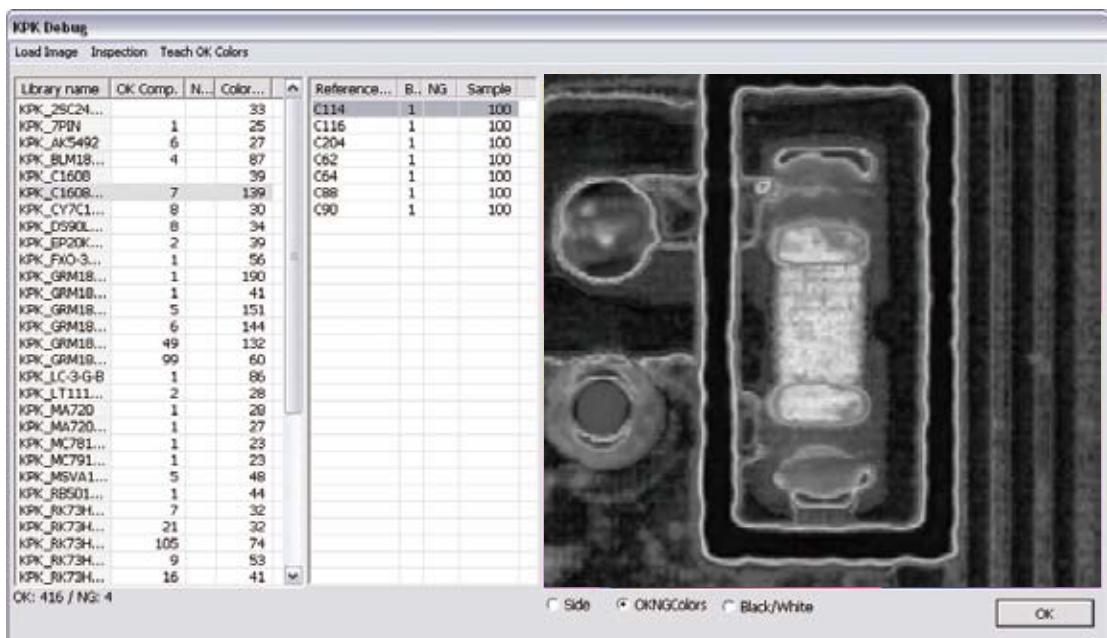

Figure 2-17 KPK Debug
Step7: Inspect the data after extracting KPK data. **KPK Debug** window shown in Figure 2-17 appears. Refer to **2.3.1 KPK Debug**.
KPK Debug window shown in Figure 2-17 appears after KPK data is extracted. Adjust KPK inspection data. Double-click the component to open component window. Refer to **2.3.2 Edit Component Data Window**.